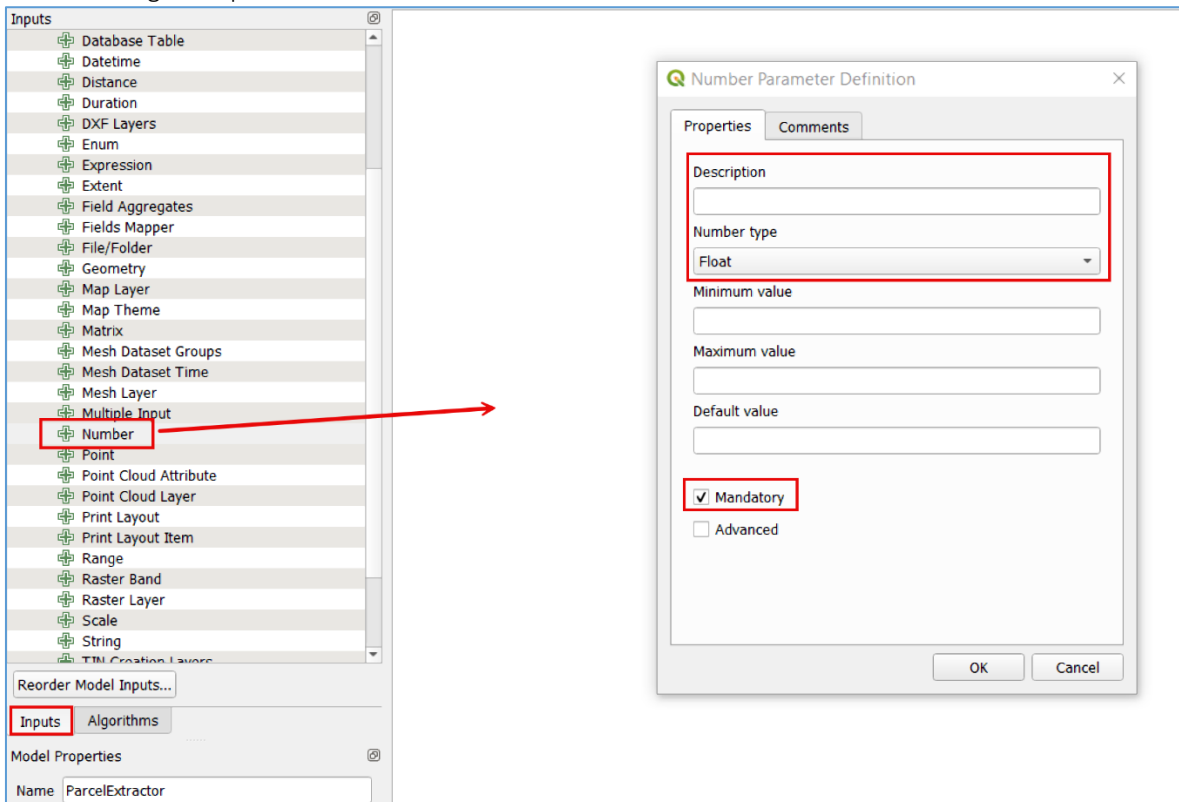

Fig. 5. Drag and drop the item from the list to add it to the model, then set its parameters in the popup.
- D. Now that we know what inputs we need, let's add them to the model by selecting the **Inputs** tab on the left panel. Search for a **Number** and drag it to the main model window. In the popup, **name** the number as *Mileage Start*, leave **type** as *Float*, and set the **Mandatory** option as required (Fig. 5). Repeat the process for the mileage end point.